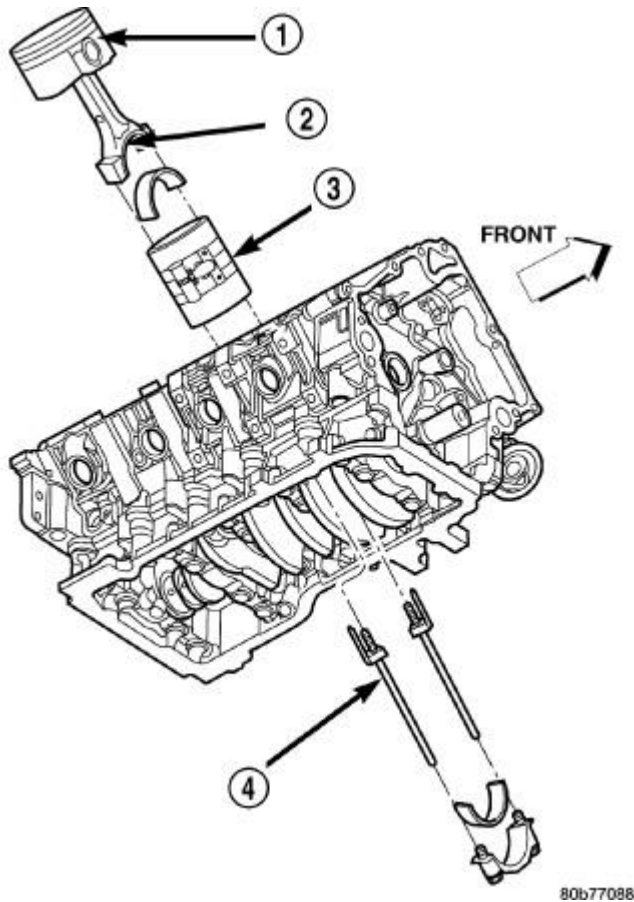

Fig. 107: Piston, Oil Slinger Slot, Ring Compressor & Special Tool
5. Install Connecting Rod Guides (special tool #8507, Guides, Connecting Rod) (4) onto connecting rod bolt threads. Refer to **Fig. 107**.